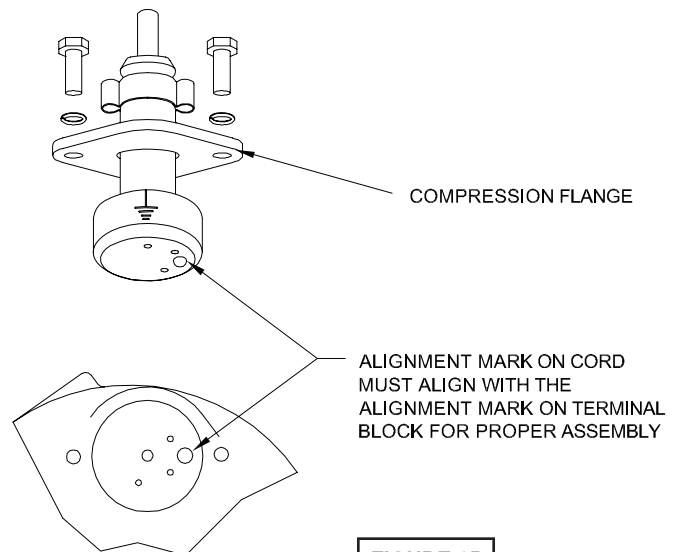

FIGURE 15
Power/Control Cord - Refill the cooling oil as outlined in paragraph F-1.3. Make wire connections as outlined in paragraph F-4.3. Insert female end of cord plug into housing bore aligning timing mark with hole in terminal block (21) see Figure 15. Compress cord plug with compression flange (16a) by tightening hex bolts (11) into the housing (6). Torque to 132 in-lbs.